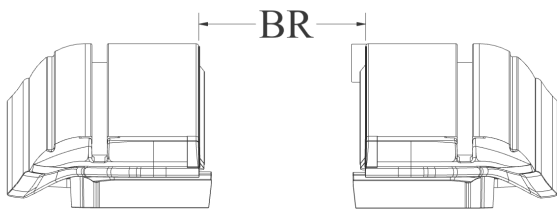
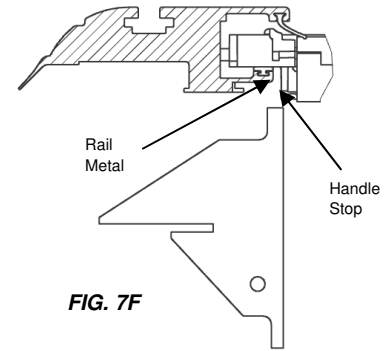

FIG. 7C
FIG. 7F
Now tighten your clamp turn knobs hand tight. Finally, check for proper spacing by measuring between the rails by attempting to insert the BR Gauge in between the rail metal and the handle stop (FIG 7F). You can also check the between the rail measurement at the canister and the tailgate end of the rails. The measurements should be equal to or less than those in Figure 7C. The Clamp Extensions have been pre-installed with brackets and shims to achieve the proper Between the Rail dimension (BR) when placed on an average factory truck bed. However, not all truck beds are average dimensionally and some have optional plastic caps or over the rail spray-in liners.